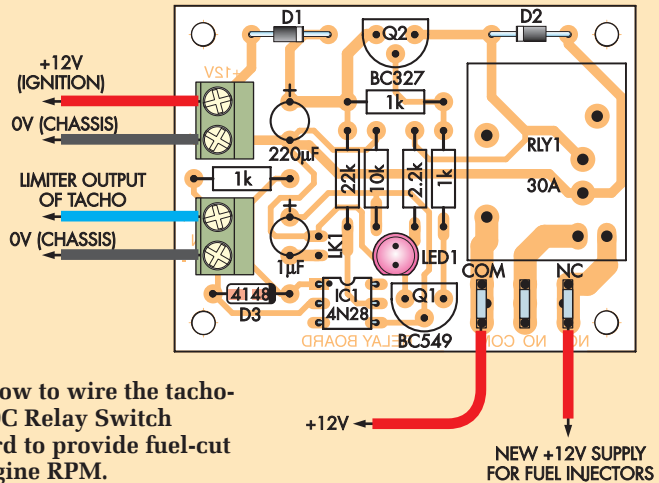

Fig.9: here's how to wire the tachometer to the DC Relay Switch (Aug '08) board to provide fuel-cut limiting of engine RPM.
The tach's limiter output drives the relay board as shown in Fig.9. When the red-line limit is reached, the normally closed (NC) relay contacts open and interrupt the positive supply rail to the fuel injectors.